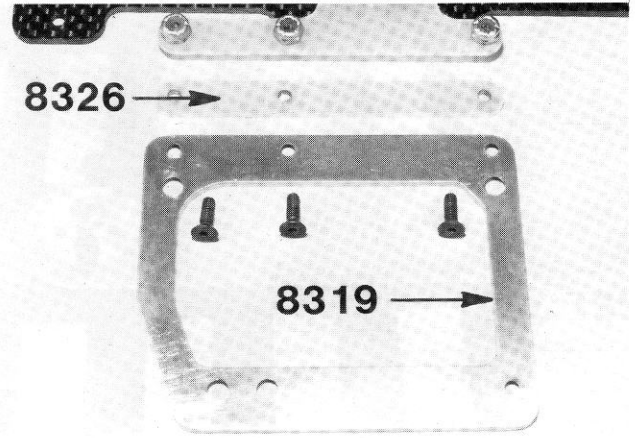

Fig. 23
□ **Figs. 23 & 24**— From Bag #5, we'll install the #8319 lower brace. First place the #8326 fiberglass spacer UNDERNEATH the T-bar. Then place the #8319 aluminum lower brace UNDERNEATH the spacer. Assemble with the three allen screws and locknuts.